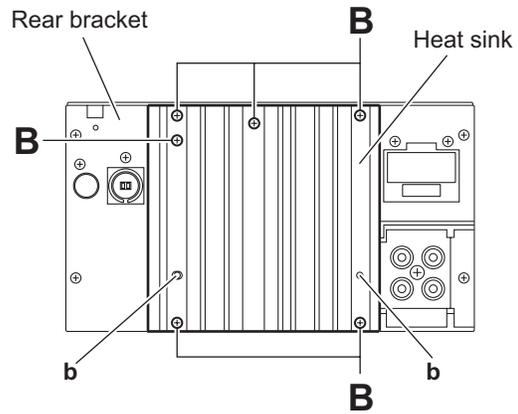

Fig.3
(See Figs.3 and 4)
- (1) From the back side of the main body, remove the six screws **B** attaching the heat sink. (See Fig.3.)
- (2) Remove the heat sink from the main body.
- When attaching the heat sink, set the projections **b** on the rear bracket in the holes of the heat sink. (See Fig.3.)